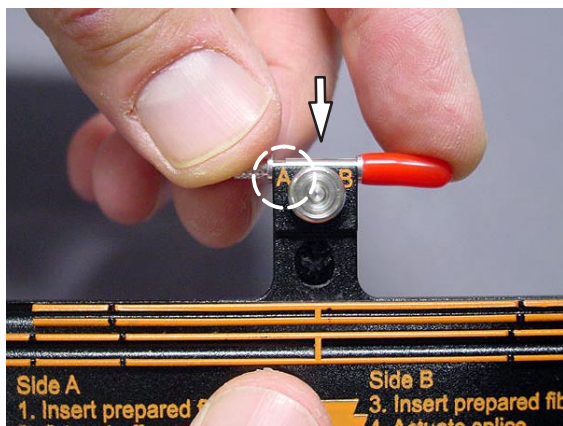

Figure 59
4. Place splice into termination tool as shown in Figure 59, notch goes into side A.